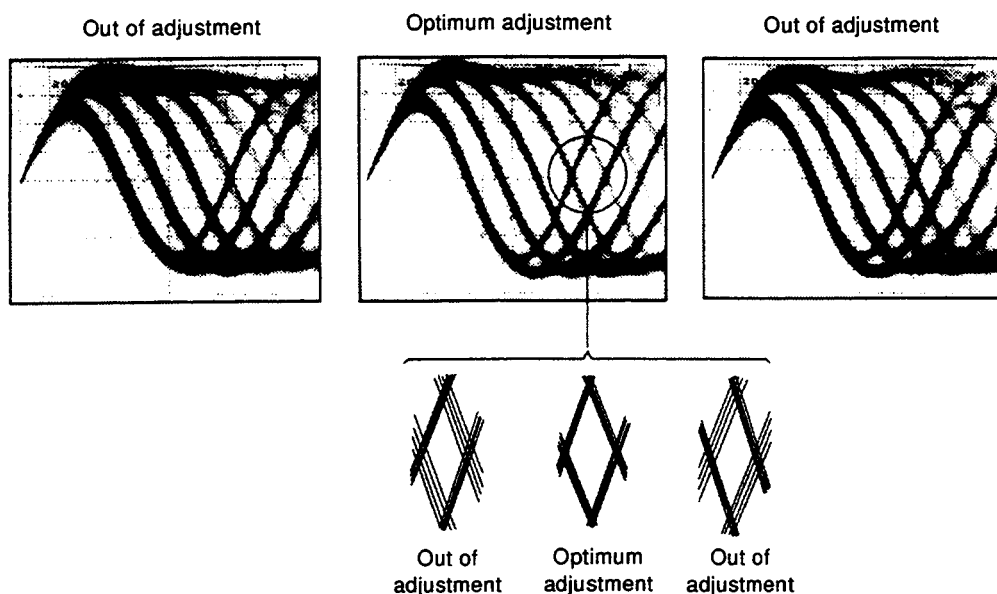

Fig. 3-3 Eye Pattern
3. Next, adjust the tangential tilt adjustment screw with the hexagon wrench (GGK1002) so that the eye pattern (the diamond shape at the center of the RF signal) can be seen the most clearly (Fig. 3-3).